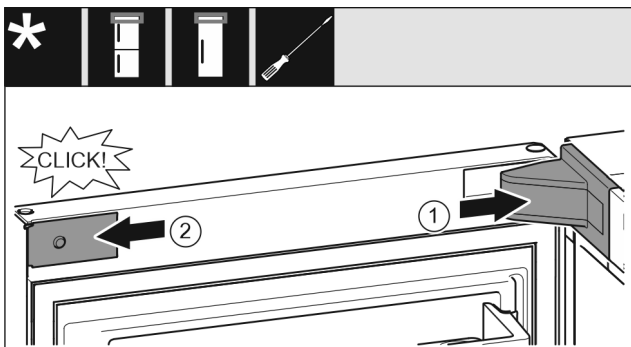

Fig. 20
- ▶ Position the bearing bracket cover and engage it. If necessary push it apart carefully. *Fig. 20 (1)*
- ▶ Position the panel on the side and latch into place. *Fig. 20 (2)*